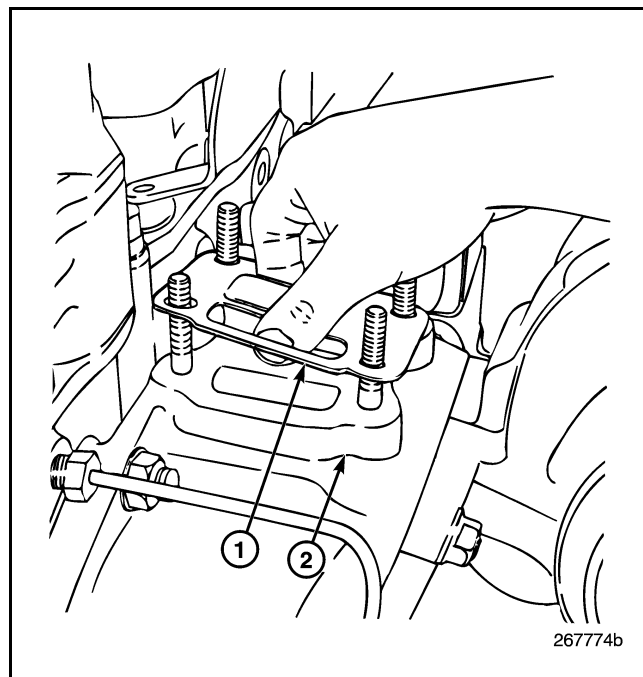

Figure 502 — Gasket Installation
3. Install a **new** gasket on the EGR valve assembly mounting surface of the exhaust manifold (Figure 502).